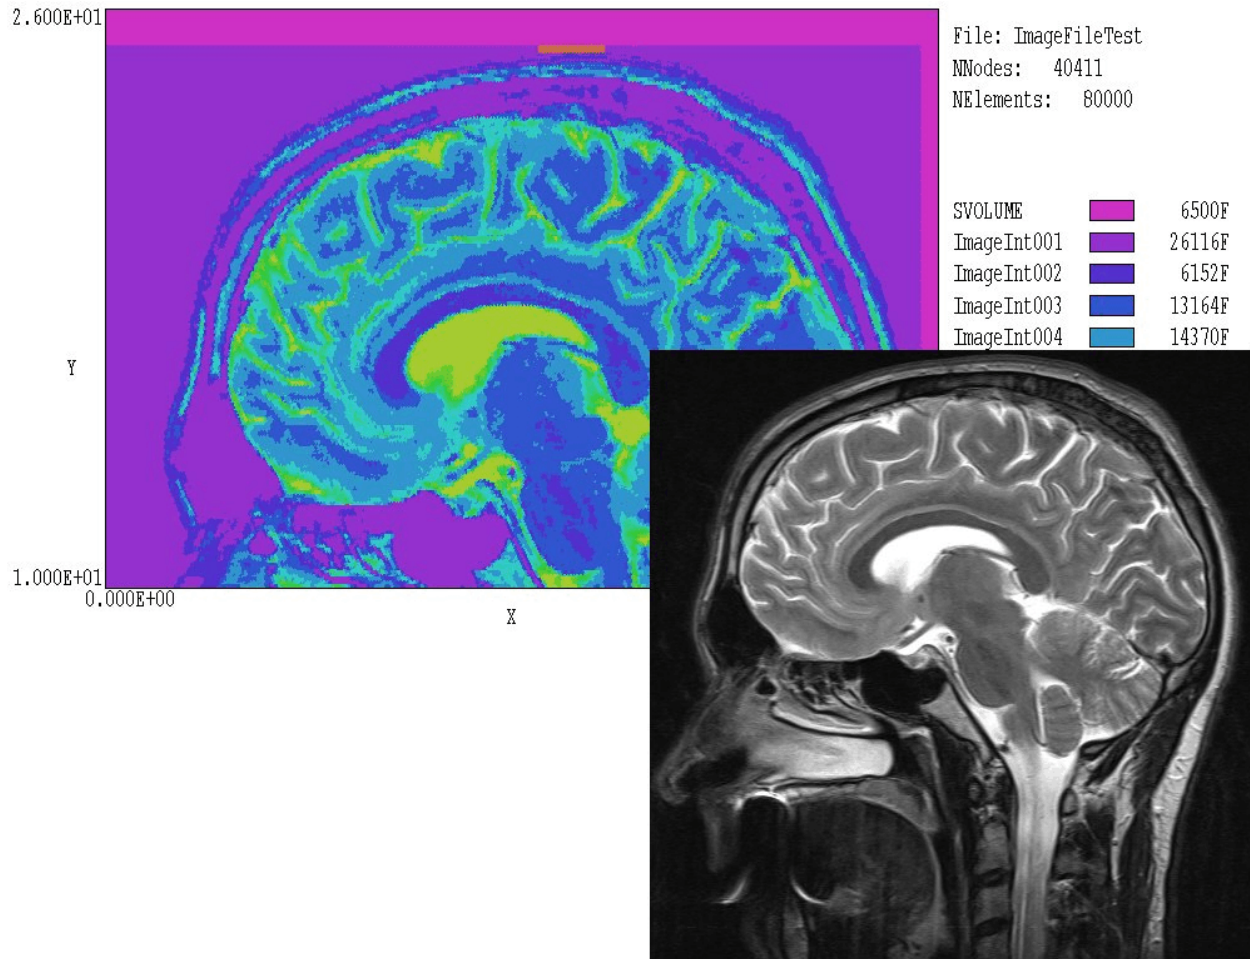

Figure 7.3. Example BRAIN_MRI, conversion of a bitmap image to a conformal triangular mesh.
■ To perform electric field or thermal solutions, the image must be consistent with the two-dimensional symmetries handled by the codes of the **TriComp** series. The leg cross-section mentioned in Sect. 7.1 is well-suited to the planar symmetry option. On the other hand, the image of Fig. 7.3 is clearly not consistent with planar or cylindrical symmetry. We should consider this example as a demonstration of mesh techniques.
■ In processing visual images, **Mesh 5.0** can divide the solution area into regions based on *LIGHTNESS* or *HUE* values. These values must have some correlation with the physical properties assigned to the regions in subsequent solution programs. Sometimes images may be directly useful. For example, we could photograph the cross-section of a complex iron pole piece with a distinctive color and use the picture to generate the corresponding region in a magnetic field solution. The image of Fig. 7.3 is probably not directly useful. The *LIGHTNESS* values depend on the concentration of nuclear species and there is probably little direct correlation with quantities like thermal or electrical conductivity.
The bitmap image (shown on the lower right-hand side of Fig. 7.3) in Windows/OS2 bitmap format.